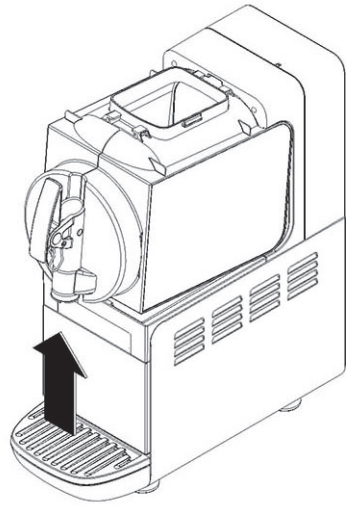

figure 8
- 4 Remove the bowl by lifting its faucet side up and off the fastening hooks (see figure 8) and